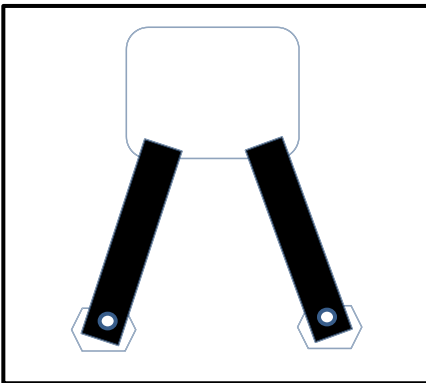

Figure 1: 09 - 14 RAM 1500, 2500, 3500, exc. 2014 1500 Quad Cab.
Step 3: Using the 3/8" threaded clips, slide two clips in the upper rectangular hole, and align one clip in each hex hole so the clip threads are visible. See **Figure 1 or 2**